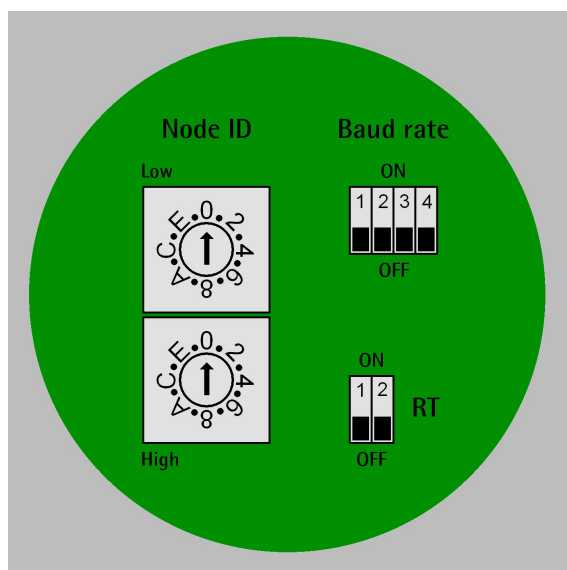

Figure 7: Rotary / DIP switches
4.4.1 Setting the node address: Node ID (Figure 7)
4.4.2 Setting the Baud rate and Parity bit (Figure 7)
4.4.3 RT bus termination (Figure 7)
To configure the serial port of the RD6 device refer to the "4.4.2 Setting the Baud rate and Parity bit (Figure 7)" section on page 24.
The default node address for all RD6 MODBUS positioning units is "1". To set a custom node address of the RD6 device refer to the "4.4.1 Setting the node address: Node ID (Figure 7)" section on page 23.